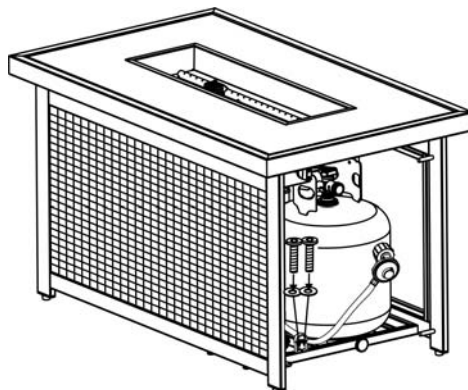

Figure 7
6. Attach the U bracket to the LP support by using two 1/4"x15 mm bolts and Ø6.5x1.0 mm washers as shown in Figure 7. **Hand tighten only.**